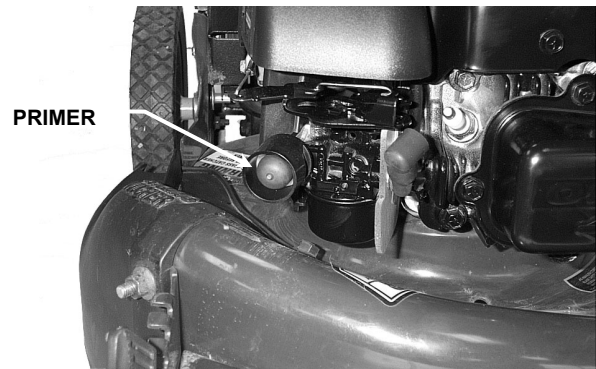

FIGURE 2.3
2. Push primer bulb three times to start a cold engine. See Figure 2.3. **NOTE:** Primer should not be required to restart a hot engine.